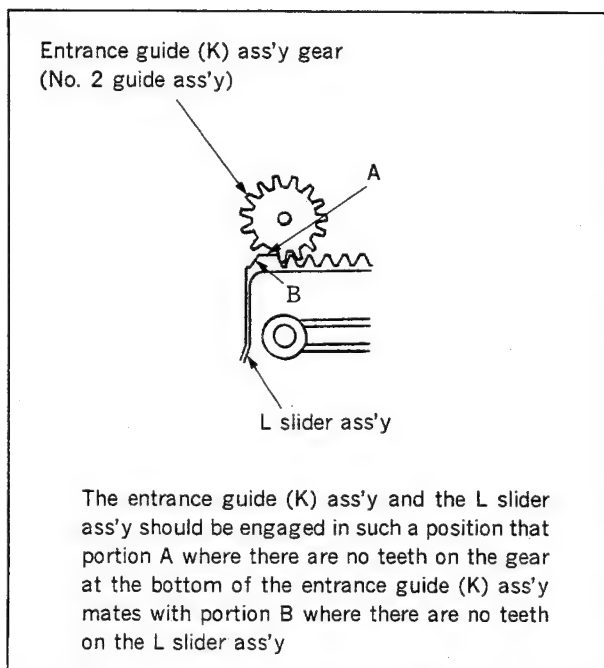

Fig. 4-11-2 Engaging the entrance guide (K) ass'y gear
- 1) Hold the loading ring to the unthreaded end position, then install a new entrance guide (K) ass'y in the mechanical deck.
- 2) When installing the entrance guide (K) ass'y, be sure that the gear of the entrance guide (K) ass'y and the teeth of the L slider ass'y should have the relative positions as shown in Fig. 4-11-2.
- 3) Secure the entrance guide (K) ass'y to the mechanical deck with the two mounting screws.